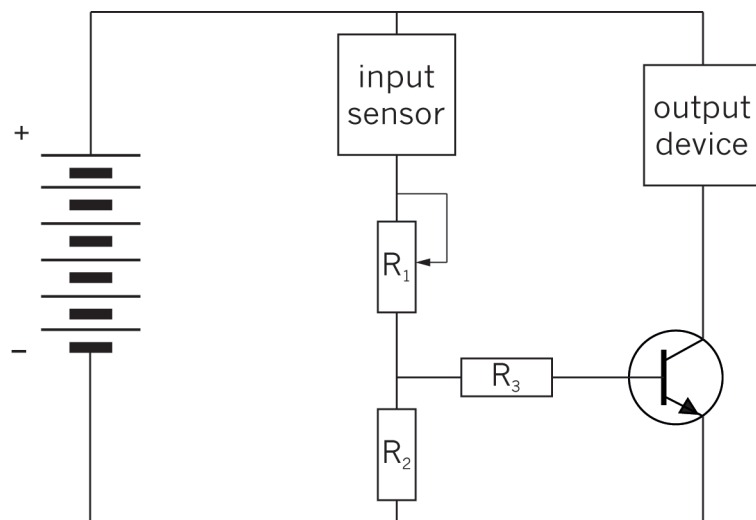
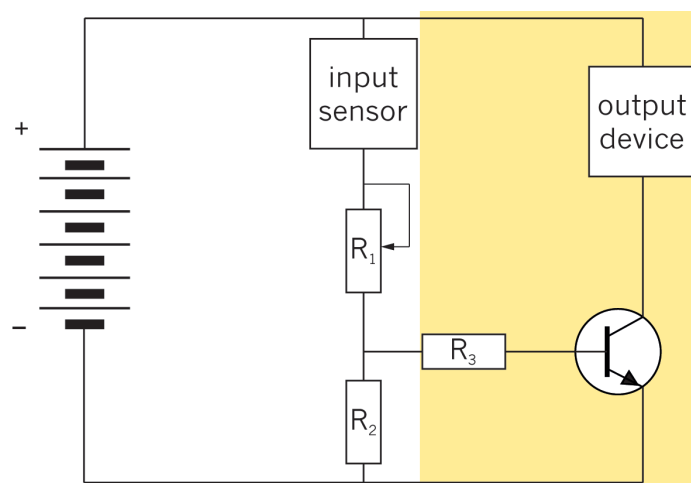

Figure 5: The circuit diagram for the control circuit
Figure 7
- If a *decrease* in resistance of the input sensor should switch on the output device, then resistor 2 and the input sensor should be arranged as in Figure 5. Look back at the circuit for a heat-activated switch using a negative temperature coefficient (NTC) thermistor, on page 180.
- If an *increase* in resistance of the input sensor should switch on the output device, then resistor 2 and the input sensor should be arranged the other way around to Figure 5. Look back at the circuit for a day/night switch using a light-dependent resistor (LDR), on page 178.
Figure 7 shows how the circuit in Figure 5 is the same as the systems diagram.